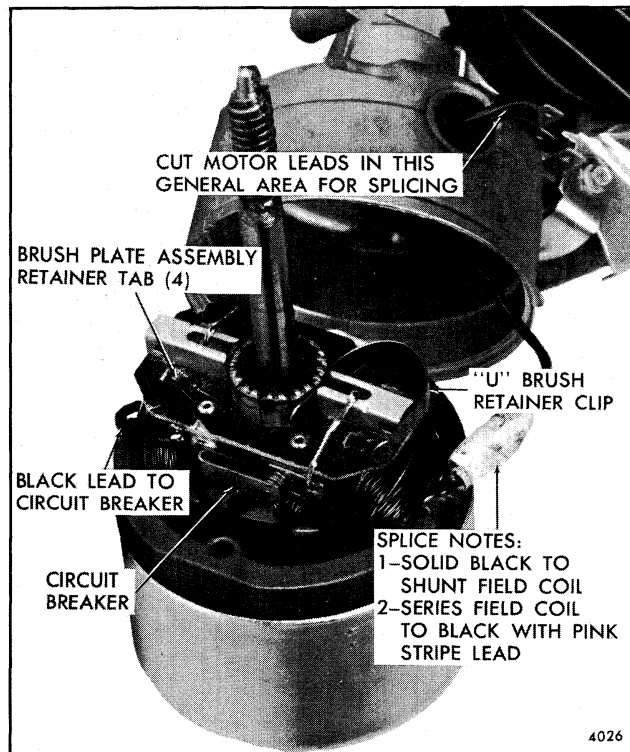

Fig. 2-30-Brush Plate Assembly
- f. Visually inspect the circuit breaker for dirty or burned contacts or solder connections to circuit breaker terminals (Fig. 2-30).